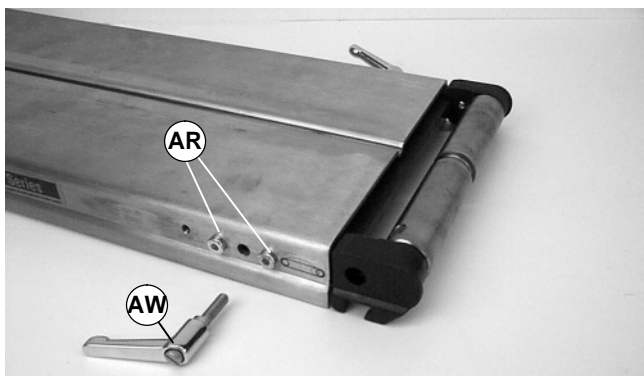

Figure 35
1. Remove handle (AW of Figure 35).
2. Remove two (2) screws (AR of Figure 35).